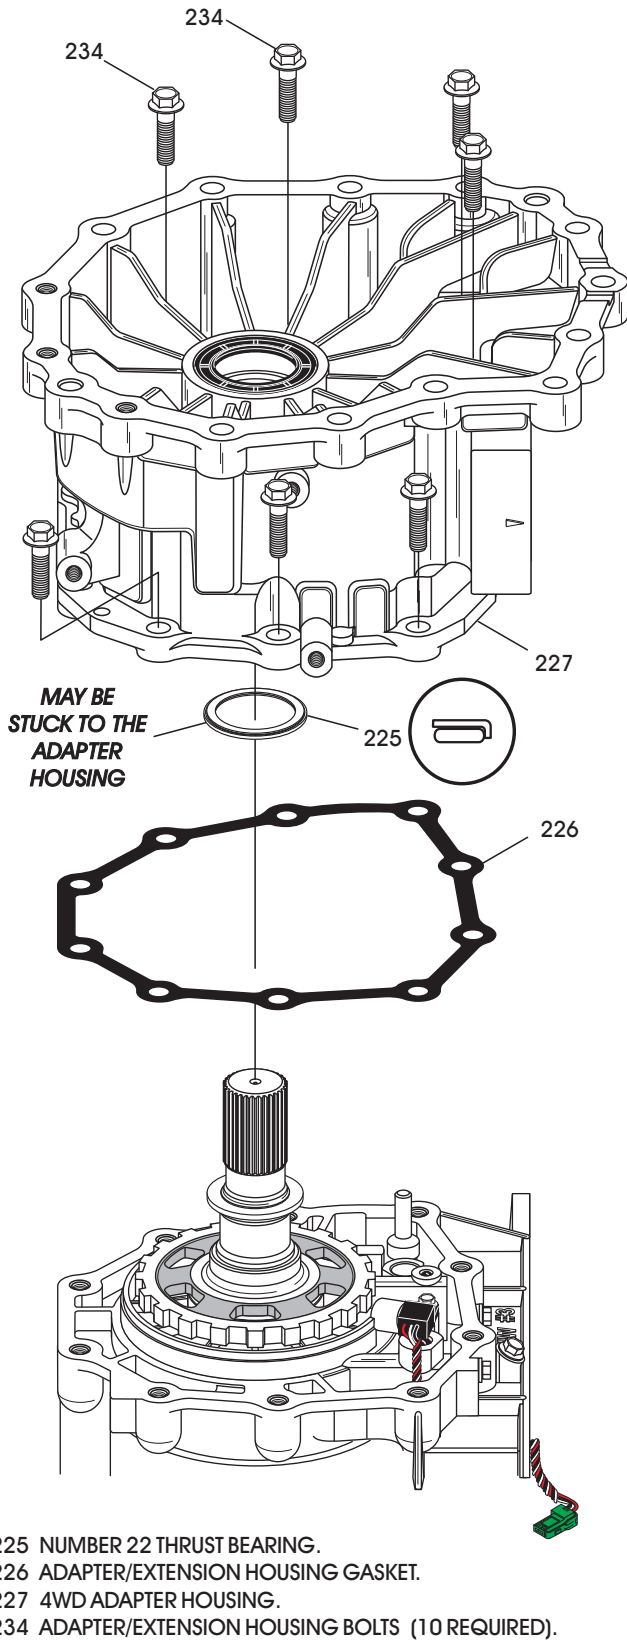

Figure 54
45. Remove the extension housing or 4WD adapter housing retaining bolts, as shown in Figure 54.
**Note: There are 10 required, and on the 4WD adapter housing 4 are located down inside, as shown in Figure 54.**
46. Remove the extension housing or 4WD adapter housing, as shown in Figure 54.
**Note: Number 22 thrust bearing may be stuck to adapter housing (See Figure 54)**